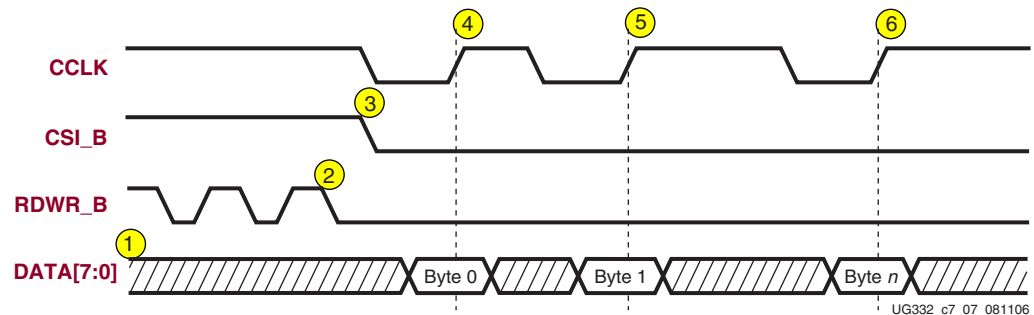

Figure 7-7: Non-Continuous SelectMAP Data Loading with Controlled CCLK
2. Pause **CCLK**, shown in Figure 7-7 and described in “Pausing **CCLK**,” page 188.
The following numbered items correspond to the markers provided in Figure 7-7.